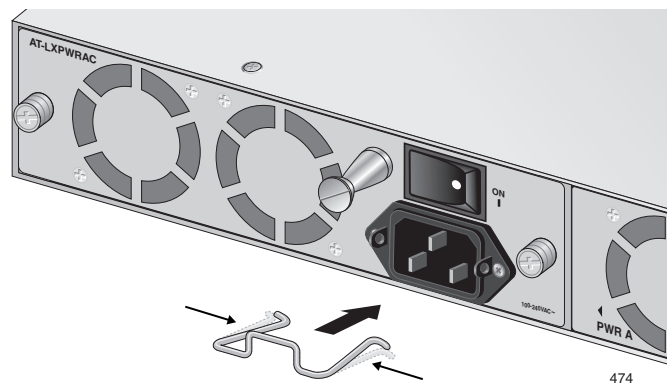

Figure 17. Inserting the Retaining Clip into the Retaining Bracket
3. With the “u” of the clip facing up, press the sides of the clip toward the center and insert the short ends into the holes in the retaining bracket, as shown in Figure 17.